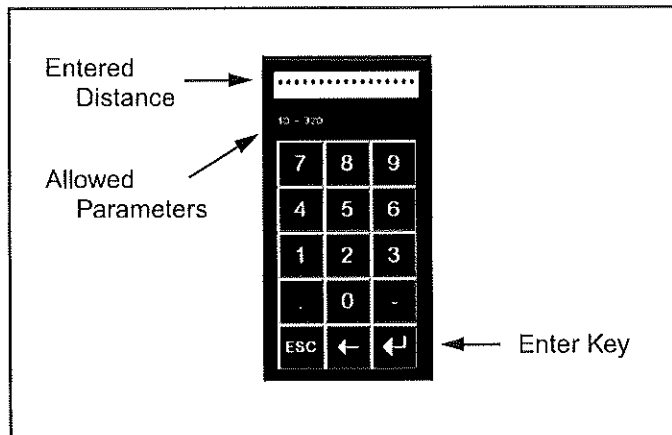

Figure 69
- Enter radial arc distance (select 10-320 ft) press enter (Figure 69).
- Enter extension distance press enter (Figure 69). (Select 10-46 - TS110 / 10-56 - TS130 / 10-66 - TS 150 & 170 / 10-86 - TS190)
- Enter radial increment distance (select 1-9 ft) press enter (Figure 69).
- Enter extension increment distance (select 1-9 ft) press enter (Figure 69).